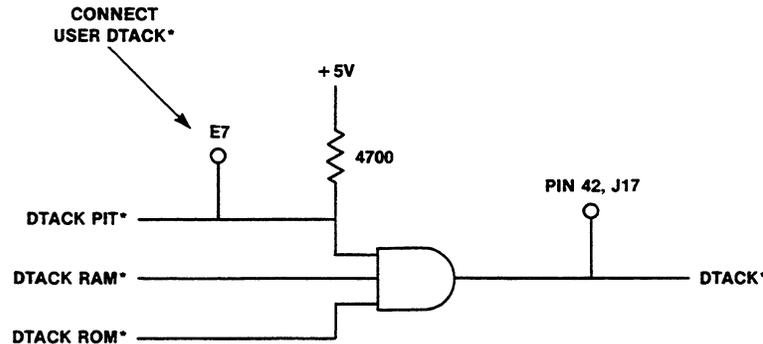

FIGURE 7-6. DTACK* Signal Generation
- c. Access to the MC68000 signal lines is provided via J17. Special care must be taken with DTACK* (Data Transfer Acknowledge). The processor DTACK* is generated by ANDing DTACK PIT*, DTACK RAM*, and DTACK ROM*, as shown in Figure 7-6. The processor DTACK* goes low whenever any of these go low. The user cannot add another signal to the processor DTACK* because this signal is not an open-collector output.
A USER DTACK* is connected to the system via connection point E7 as shown in Figure 7-6. The PIT DTACK* is turned off when not required, and the USER DTACK* can be bussed to this point. A 4700 ohm resistor holds PIT DTACK* high when the driver is turned off. The USER DTACK* must be an open-collector or three-state driver. (E7's location is between packages U24 and U25 as shown in Figure 7-2.)